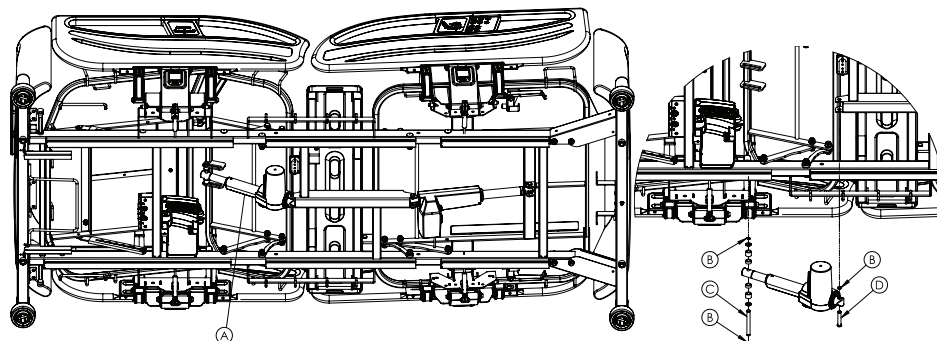

Figure 3: Gatch (legrest) actuator
8. Unplug the gatch (legrest) actuator cable to allow the removal of the gatch (legrest) actuator (A).
9. Using snap ring pliers, remove and discard the retaining rings (B) (Figure 3 on page 49) from the foot end clevis pin. Remove and discard the retaining ring on the head end clevis pin.
10. Using one hand, support the gatch (legrest) actuator and remove the foot end clevis pin (C) (Figure 3 on page 49) and spacers then allow the gatch (legrest) actuator to pivot down.
11. Using one hand, support the gatch (legrest) actuator and remove the head end clevis pin (D) (Figure 3 on page 49).